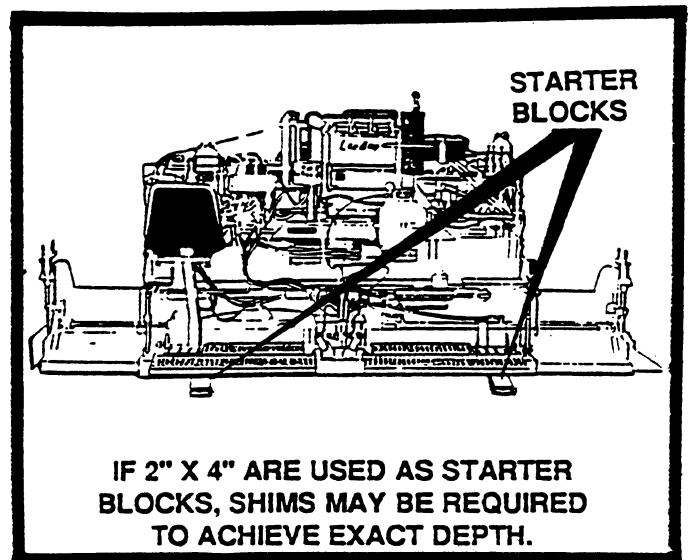

FIGURE 22
5. Place wood blocks under the screed as shown in Figure 22. These blocks should be slightly thicker (1/4 inch) than the finished (compacted) mat, to allow for reduction in thickness after rolling.